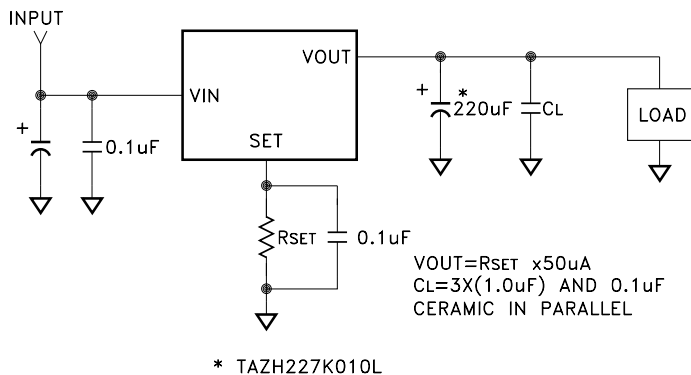

FIGURE 1
- ① Output is decoupled to ground using a 220μF tantalum low ESR capacitor in parallel with 3 pieces of 1.0μF and one 0.1μF ceramic capacitor unless otherwise specified. (See Figure 1)
- ② Guaranteed by design but not tested. Typical parameters are representative of actual device performance but are for reference only.
- ③ Industrial grade devices shall be tested to subgroup 1 unless otherwise specified.
- ④ Class H and K devices shall be 100% tested to subgroups 1, 2 and 3.
- ⑤ Subgroup